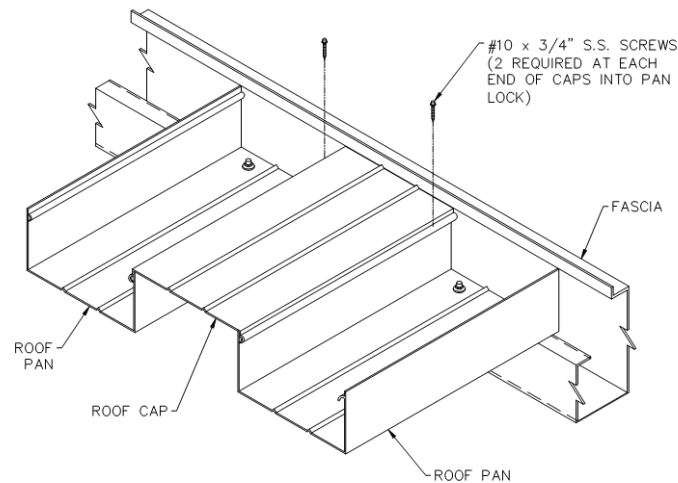

FIGURE 15
- B. Install the remaining roof pans. If pan and cap decking is being used, the caps will need to be fastened to the pans at the lock on each end with (2) #10 x 3/4" SS screws (Figure 15). If the projection of the canopy is greater than 6'-0", then additional #10 x 3/4" SS screws will need to be added in the pan lock at spacings no greater than 4'-0" o.c.